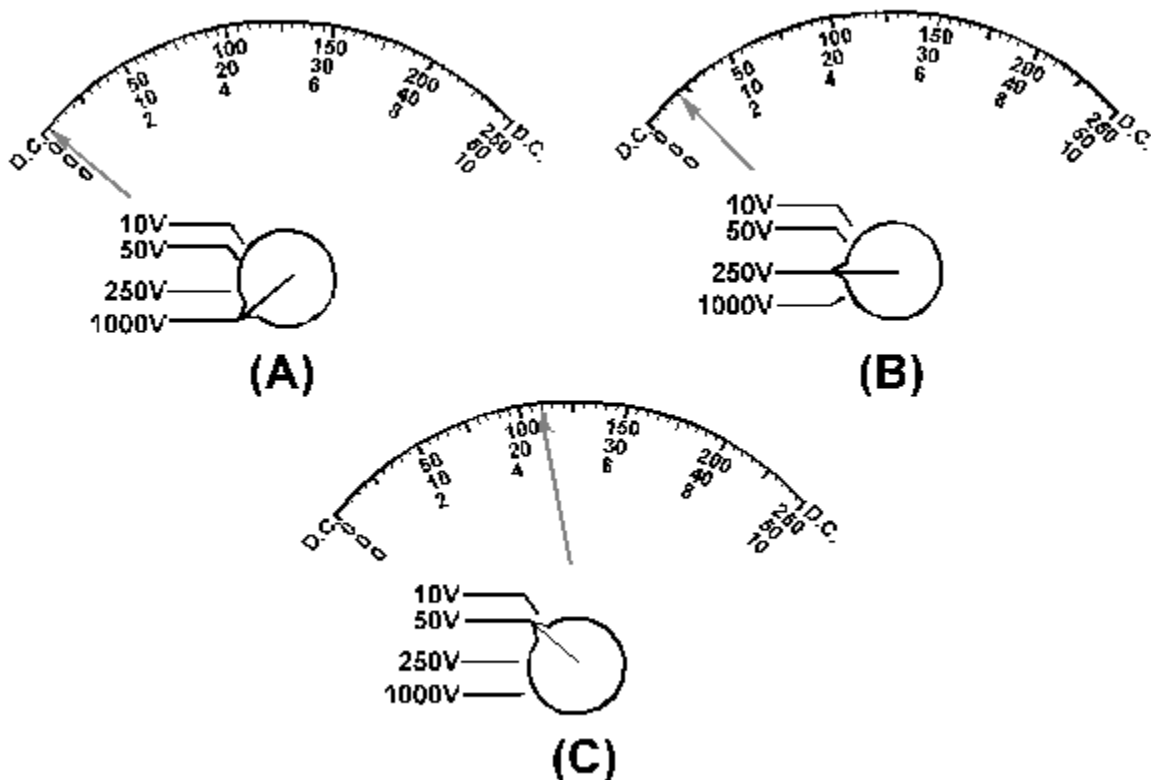

Figure 1-30.—Reading a voltmeter at various ranges.
The current through the meter movement is determined by the voltage being measured. If the voltage measured is higher than the range of the voltmeter, excess current will flow through the meter movement and the meter will be damaged. Therefore, you should always start with the highest range of a voltmeter and switch the ranges until a reading is obtained near the center of the scale. Figure 1-30 illustrates these points.
In figure 1-30(A) the meter is in the 1000-volt range. The pointer is barely above the 0 position. It is not possible to accurately read this voltage. In figure 1-30(B) the meter is switched to the 250 volt range. From the pointer position it is possible to approximate the voltage as 20 volts. Since this is well below the next range, the meter is switched, as in figure 1-30(C). With the meter in the 50-volt range, it is possible to read the voltage as 22 volts. Since this is more than the next range of the meter (10 volts), the meter would not be switched to the next (lower) scale.